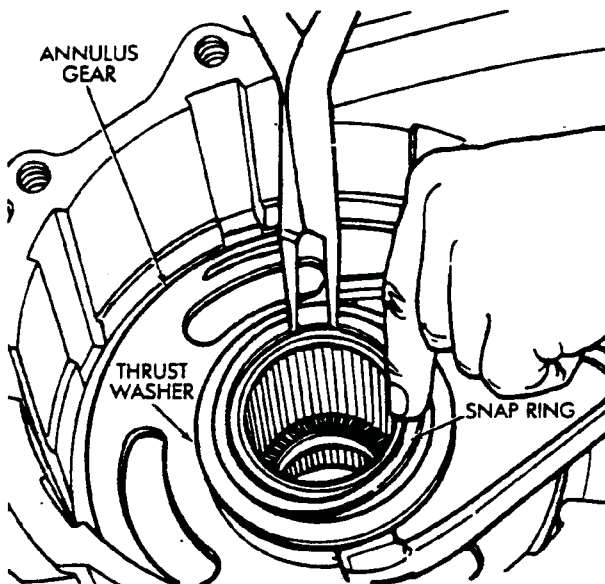

Fig. 4-46 Install Annulus Thrust Washer and Snap Ring
36. Install annulus thrust washer and snap ring (Fig. 4-46).